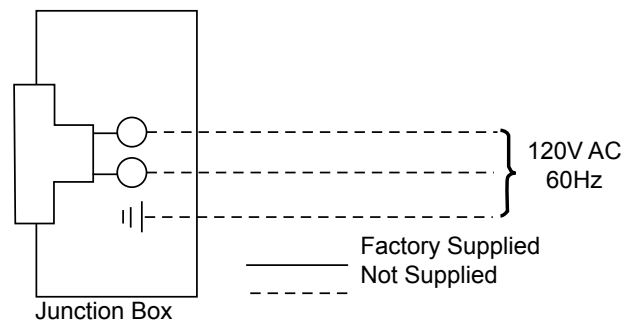

Figure 23. Junction Box Wiring Diagram
3. The junction box cover has a factory installed "romex" style strain relief connector. After connecting the wires, route the wire leads through this connector. Refer to the wiring diagram in Figure 23.